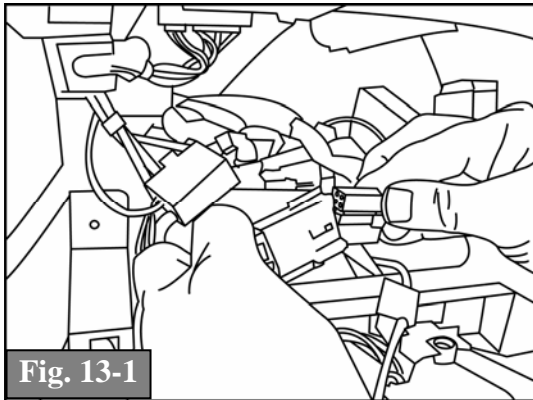

Fig. 13-1
- (a) Referencing Step 4 (a), reassemble the Radio by connecting: 1) T-Harness into the back of the Radio 2) the Satellite harness (if equipped) and 3) the radio antenna cable. (Fig. 13-1)